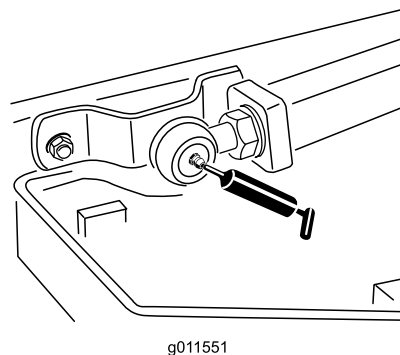

Figure 43
- Lift arm ball joints (2) (Figure 43)